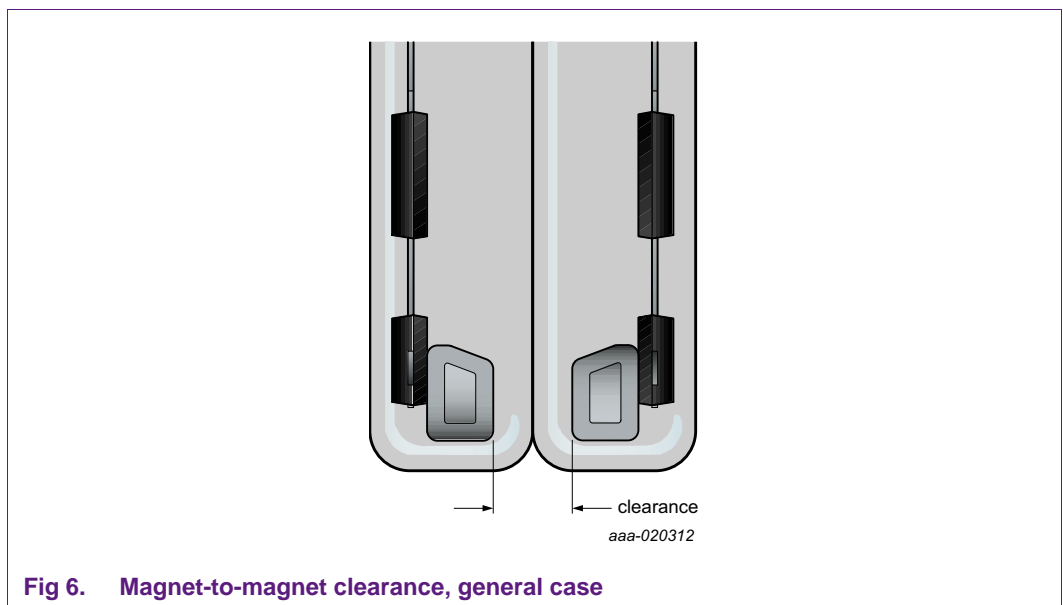

Fig 6. Magnet-to-magnet clearance, general case
- Minimum clearance of 1.5 mm for all other directions (already achieved by typical overmold layers); see Figure 6